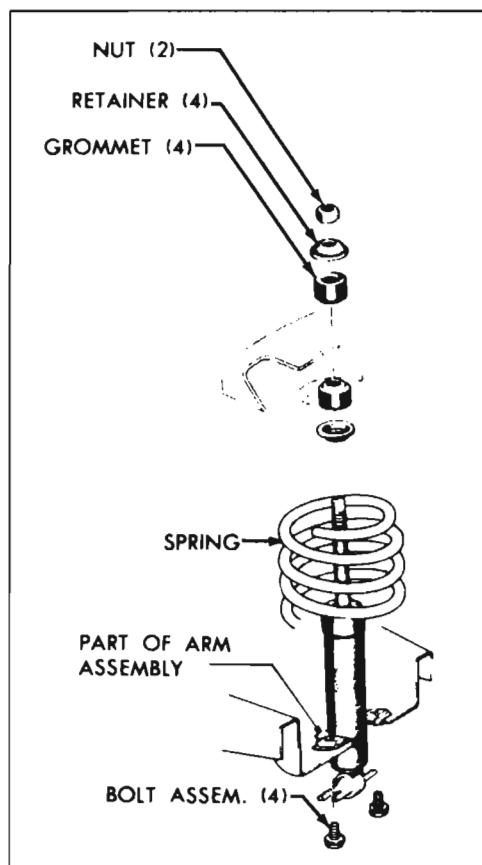

Figure 7-21—Shock Absorber Mounting
1. Remove upper shock absorber attaching nut, grommet retainer, and grommet. See Figure 7-21.
2. Extend shock and install one grommet retainer and one grommet on shock absorber and slide through hole in lower spring seat. Attach with two screws. Torque to 12-24 ft. lbs. See Figure 7-21.